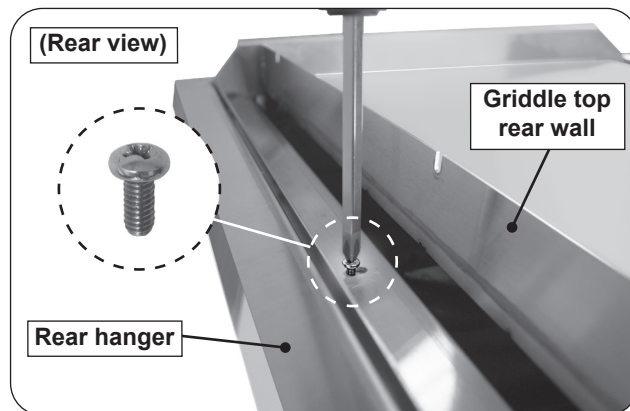

Fig. 31-2 Secure griddle top
2. Secure the griddle top by fastening the provided screw into the screw hole located on the rear of the griddle top (see Fig. 31-2).